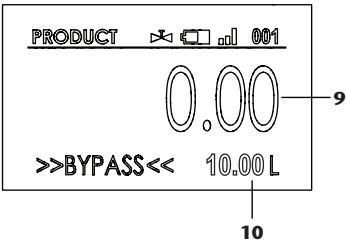

Fig. 13
Under these mode, a “trip” meter is available (Fig. 13) in order to simplify the execution of individual dispenses. To do this, just press and hold the “power” button until the displayed quantity changes to zero (9). From now on, the dispensed volume will increase from zero (“trip” meter). The “total” meter will now be displayed on the bottom right corner of the screen (10), next to the units.